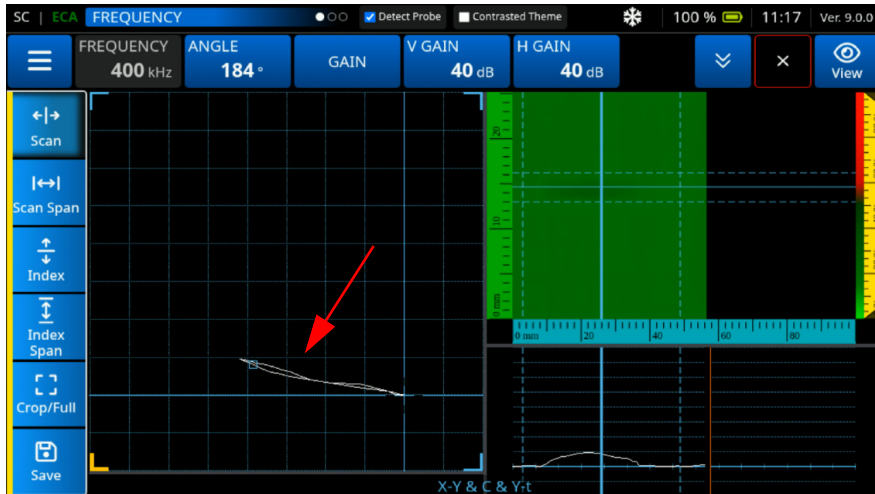

Figure 4-30 Select the EDM Notch Signal
12. Using the **Index**, **Scan**, and **Scan Span** cursors, select the EDM notch signal (See Figure 4-30 on page 143).
- Using live impedance and **Gain**, set the deepest corrosion spot as **80% FSH** (See Figure 4-30 on page 143).